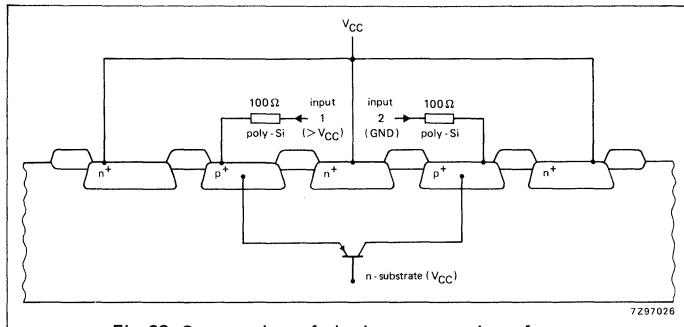
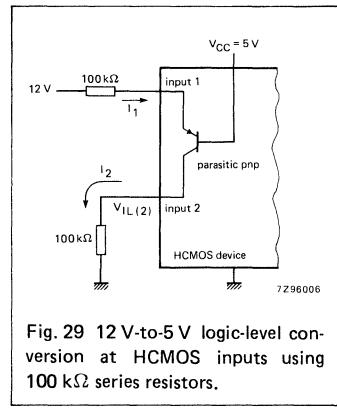

Fig. 28 Cross-section of the input protection of an HCMOS device showing the parasitic pnp transistor between adjacent inputs.
Fig. 29 12 V-to-5 V logic-level conversion at HCMOS inputs using 100 kΩ series resistors.
Parasitic bipolar pnp transistors can be present between adjacent inputs, e.g. between an input protection diode to VCC and the same diode at the adjacent input, as shown in Fig.28. If the recommended operating input voltage is exceeded, perhaps by ringing of more than 0.7 V, current into the terminal (I1) can cause a current I2 in the parasitic transistor and in the adjacent input (Fig.29). Because I2 in the adjacent input has to be drained by the source driving that input, the source resistance (R) must be low. If R is not low enough, the parasitic current can lift the source voltage and cause unwanted switching.
A low  $\alpha$  permits proper logic operation in the presence of transients and also allows HIGH-to-LOW voltage translation simply by adding series input resistors. For example, in Fig.29, 12 V system logic is converted to 5 V system logic by adding a 100 kΩ resistor in each input. Since the logic signals are delayed by 1.2 μs, this arrangement is suitable for rather slow 12 V control logic such as that in automotive applications. When the input diodes are used as clamps for logic level translation, the total input current should be limited to 20 mA.